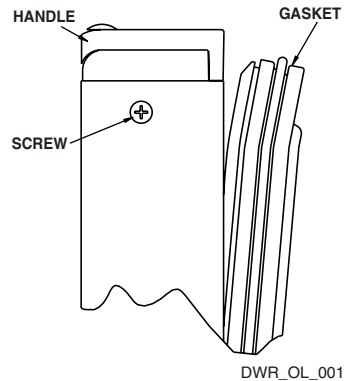

Figure 8
1. Open drawer. Pull door gasket (Figure 8) out of the groove (top edge of door only). Start in the middle and pull outward, moving toward the edge. This may take some force.